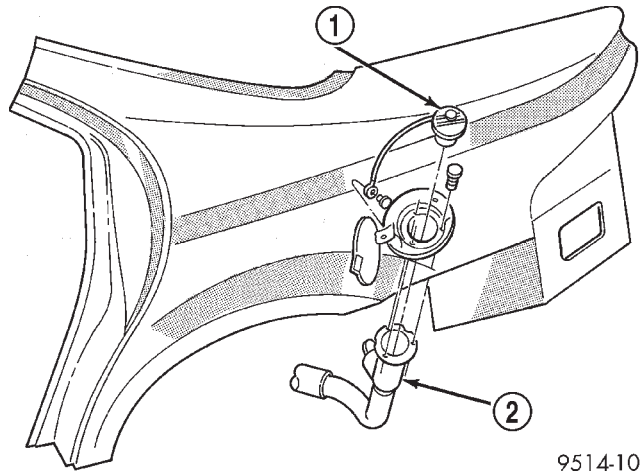

Fig. 31 Fuel Filler Neck Removal/Installation
- (1) Loosen fuel filler tube cap.
- (2) Remove fuel filler neck screws (Fig. 31).
- (3) Disconnect Ground strap from body.
- (4) Disconnect fuel filler tube hose from fuel tank neck. Remove fuel filler tube assembly.
- (1) Install fuel filler tube. Connect fuel filler tube hose to fuel tank neck.
- (2) Install fuel filler neck screws (Fig. 31).
- (3) Install fuel filler tube cap.